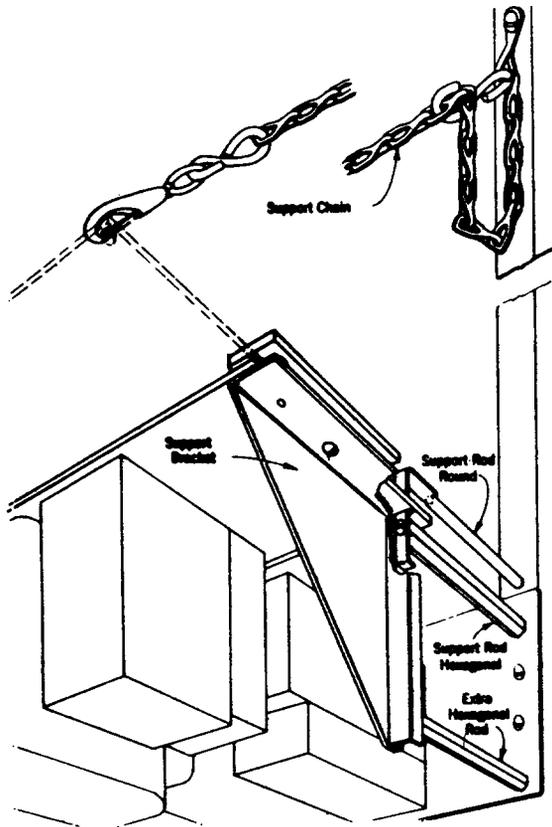

Fig. 1 - Method of Using Group 1 Maintenance Support Bracket
3.03 Remove the bottom screws on each side of the panel to be serviced and insert the round support rods. Turn these rods down to meet the hexagonal support rods and fasten in place with the round head screws provided. See Fig. 1.